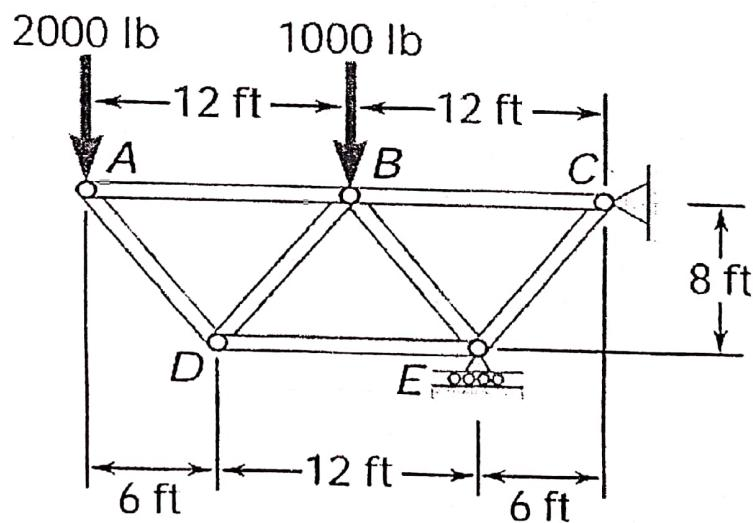

Figure Q 7 (a)
- (a) Using the method of joints, determine the force in each member of the truss as shown in Figure Q 7 (a). (6 $\frac{2}{3}$)